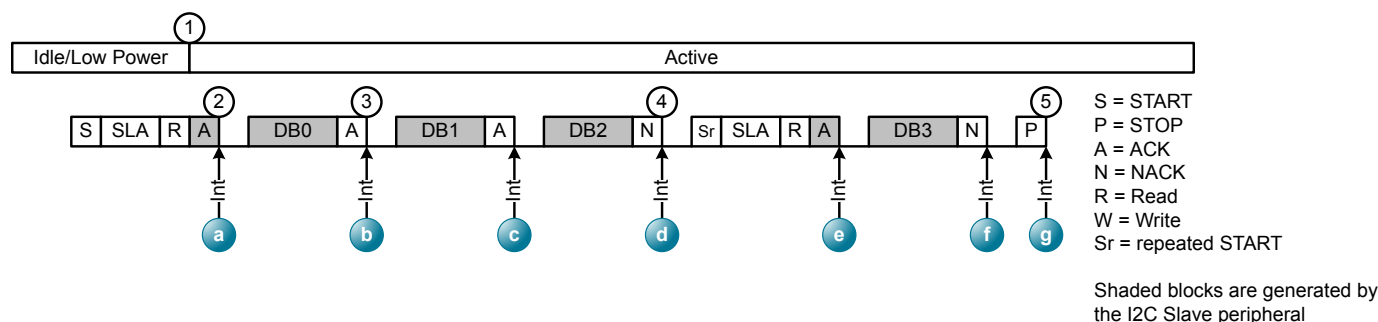
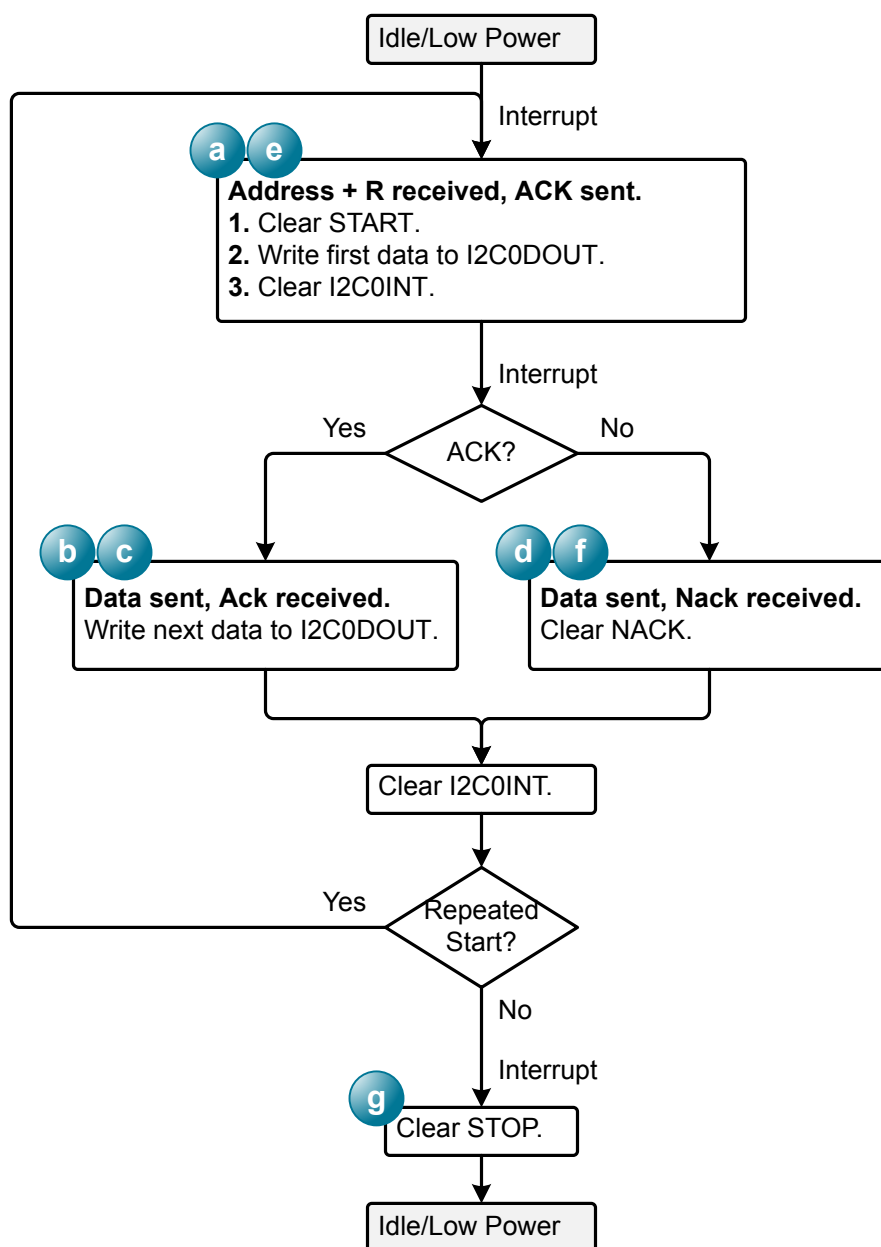

Figure 15.7. Example I2C Read Sequence with the I2C Slave Peripheral
Figure 15.8. I2C Read Flow Diagram with the I2C Slave Peripheral
2. An interrupt occurs after the automatic ACK of the address. The I2C peripheral holds the SCL line low for clock stretching until firmware clears I2C0INT. Firmware should read the data from the master and take the actions indicated by Figure 15.8 I2C Read Flow Diagram with the I2C Slave Peripheral on page 185.
Figure 15.7 Example I2C Read Sequence with the I2C Slave Peripheral on page 184 demonstrates an example sequence, including a repeated start, and Figure 15.8 I2C Read Flow Diagram with the I2C Slave Peripheral on page 185 describes the I2C Read sequence and firmware actions in each interrupt.